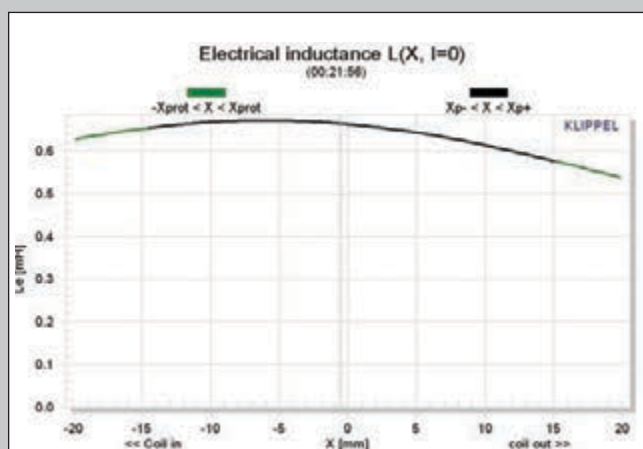

Figure 10: Klippel Analyzer L(X) curve for the BMS 15N850V²
Figure 10 gives the inductance curve L(X) for the BMS